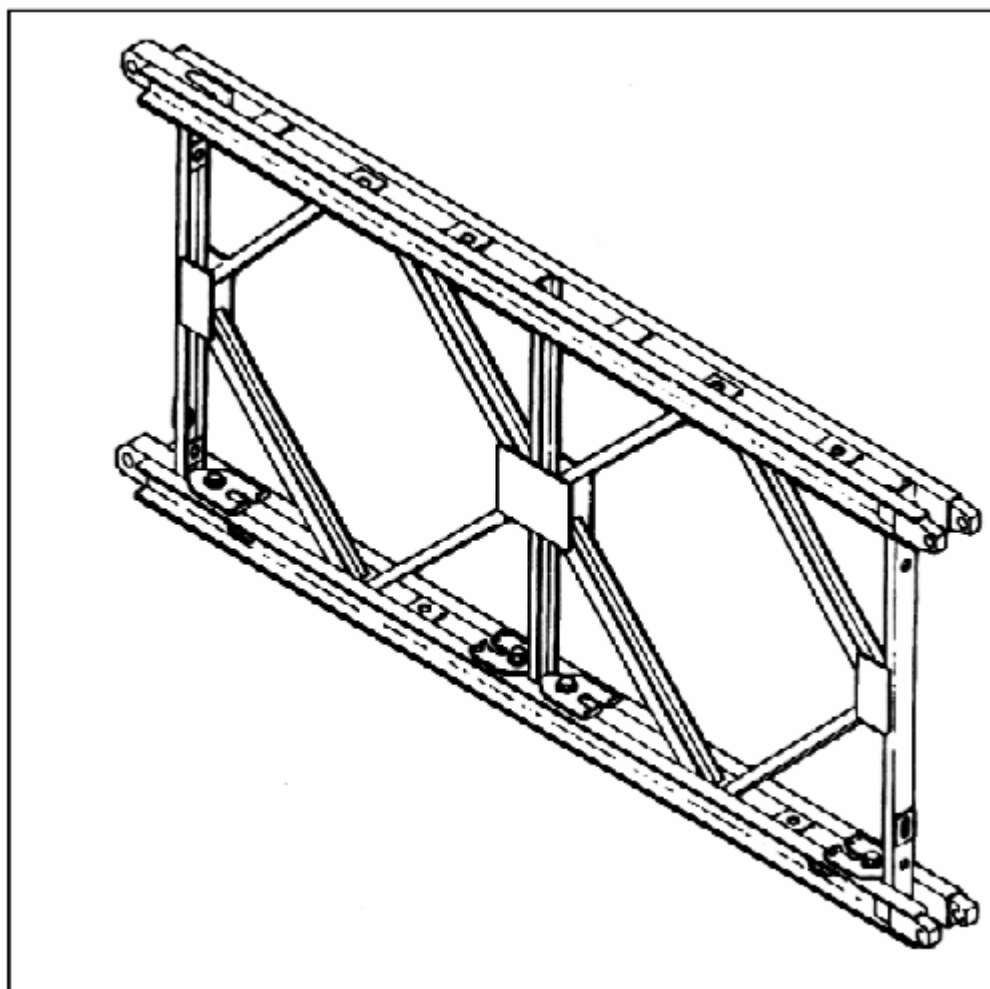

Figure 052-197-1130-1
- a. A panel is a main member of the bridge (Figure 052-197-1130-1). A panel requires six personnel to carry.